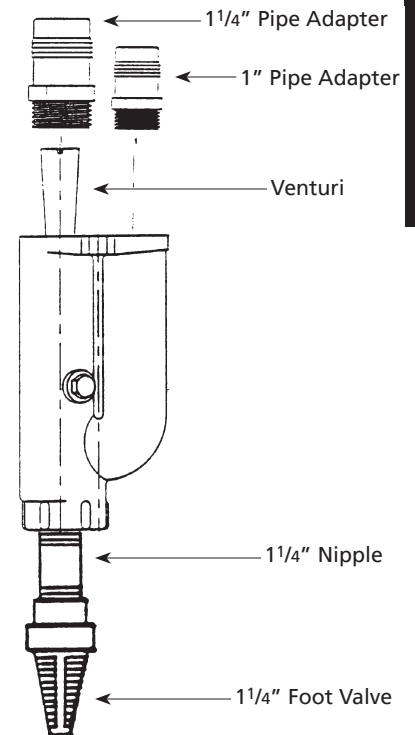

Figure 17
5. Using Teflon® tape on male threads, install a 1 1/4" plastic pipe adapter by screwing adapter into 1 1/4" tapped hole in ejector body (See Figure 17).